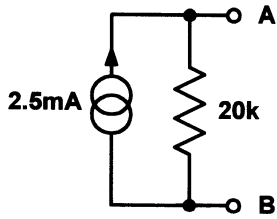

Figure 3.48
- 3.17 The Norton equivalent of a network is shown in Fig. 3.48. Determine (a) the open-circuit output voltage and (b) the output voltage developed across a load of $5\ \text{k}\Omega$.